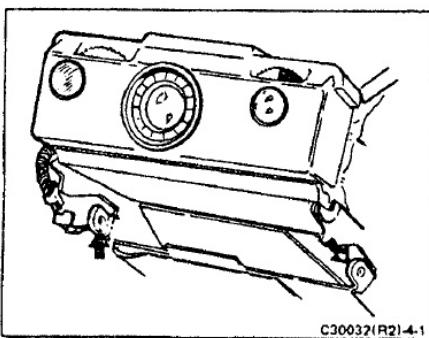

FIGURE 4-1 FRONT COVER HINGE STUDS
*no repair is possible. You must replace the inner camera back assembly. Figure 4-1 illustrates the studs mentioned.*